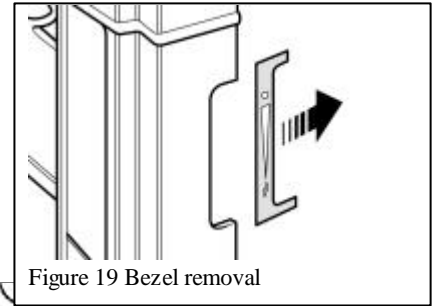

Figure 19 Bezel removal
- The side control bezel is not applicable for Homestyle appliances. Remove the bezel from the right side of the front unit by firmly pulling it back from the side casting. See figure 19. Be careful not to scratch the paint.